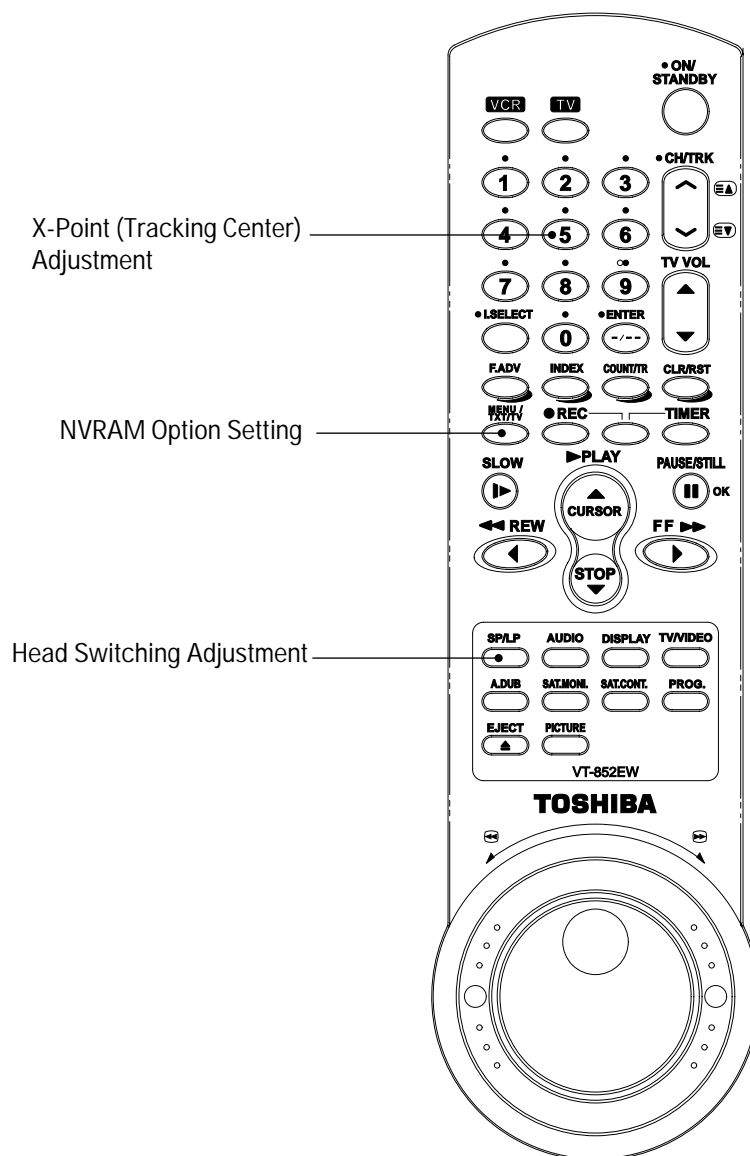

Fig. 5-1
- 3) Press the "5" button of remote control then adjustment is operated automatically. (See Fig. 5-1)